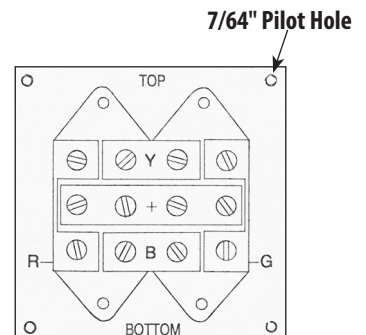

FIGURE 3
4. Pull the wire harness up through the hole and attach it to the back of the control with the ring terminals enclosed. There are two screws for each wire. (The wire can be attached to either screw.) The brass strip is marked with the first letter of that color of the wire (See Figure 3).* All 12 screws must be in place and snug for proper control function.